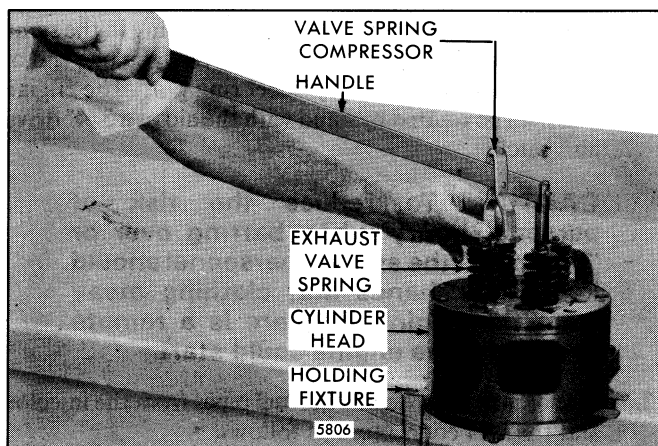

Fig. 2 - Removing Exhaust Valve Spring
- 1. With the cylinder head holding fixture J 23741-A attached to a work bench (Fig. 2), bolt the cylinder head in the fixture.